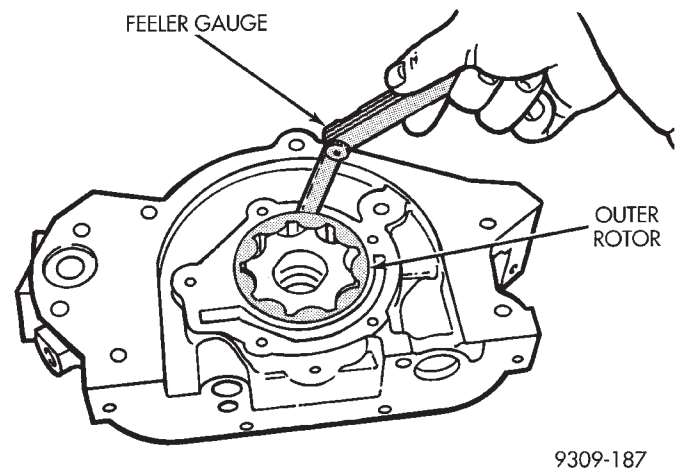

Fig. 117 Measuring Outer Rotor Clearance in Housing
(5) Slide outer rotor into body, press to one side with fingers and measure clearance between rotor and body (Fig. 117). If measurement is 0.39 mm (0.015 inch.) or more, replace body only if outer rotor is in specifications.